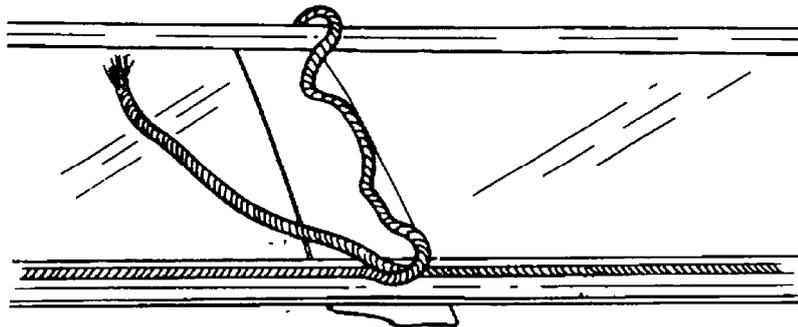

Figure 102 Rubber Seal Installing Rope
- f. Using approximately 4 metres of rope with a diameter of 7 mm, insert the rope into the groove of the rubber (Figure 102) starting at the bottom centre of the glass and leaving enough rope at the start to enable it to be pulled on during installation.